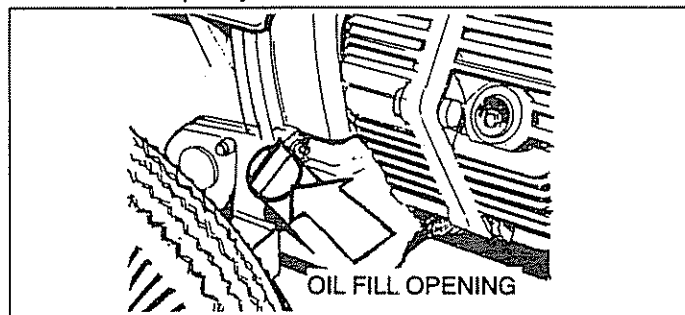

FIG. 18
- Place pressure washer on a level surface and remove one of yellow Oil Fill Caps (Fig. 18), insert clean funnel in opening, and add engine oil from the enclosed bottle until level is at point of overflowing. Check engine oil level before starting each time thereafter. If oil level is below point of overflowing, fill to proper level. Crankcase oil capacity is about 620ml or 21 fluid ounces.